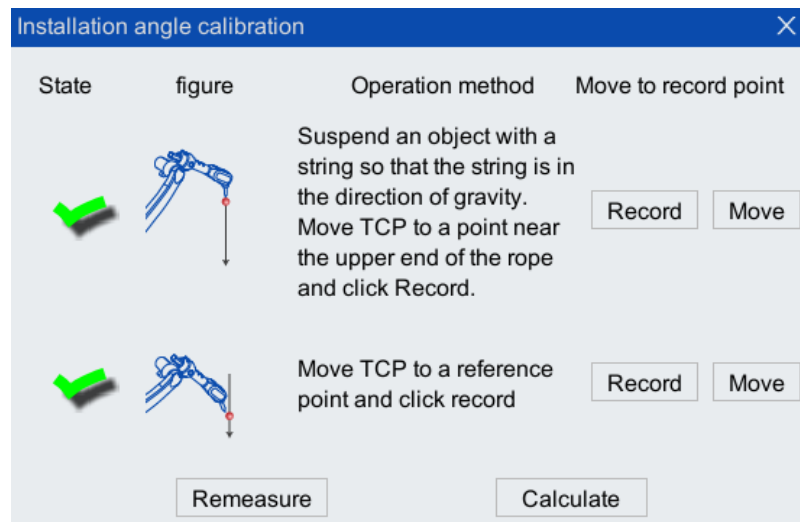

Figure 5-99 Successfully calibrated interface
Step2. Move the TCP to the reference point and click <Record>. Change ✗ to ✓ as shown in Figure 5-99.